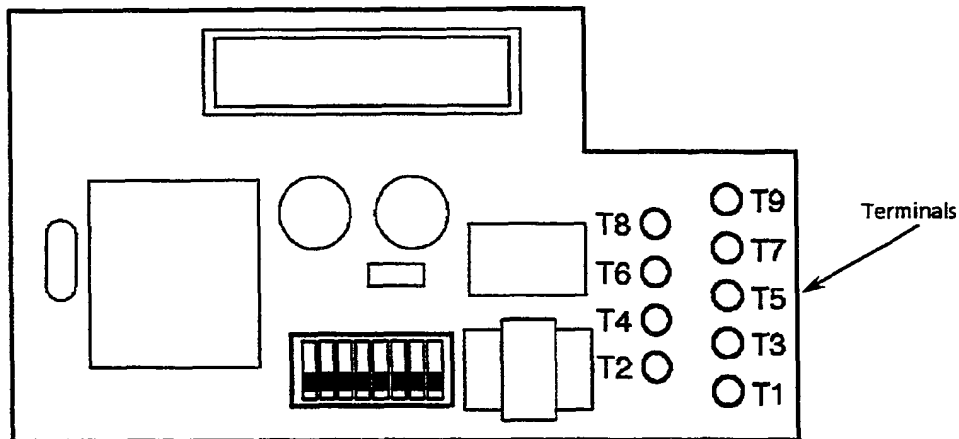

Figure 1-77 ADA-U Unit
Cable terminal connectors are located on the right side of the ADA-U Unit. Cables should be connected on this unit before installing the unit on the Digital Multiline Terminal. Refer to Figure 1-77 ADA-U Unit
2. Locate the adapter terminals on the right side of the unit shown in Figure 1-77 ADA-Unit.